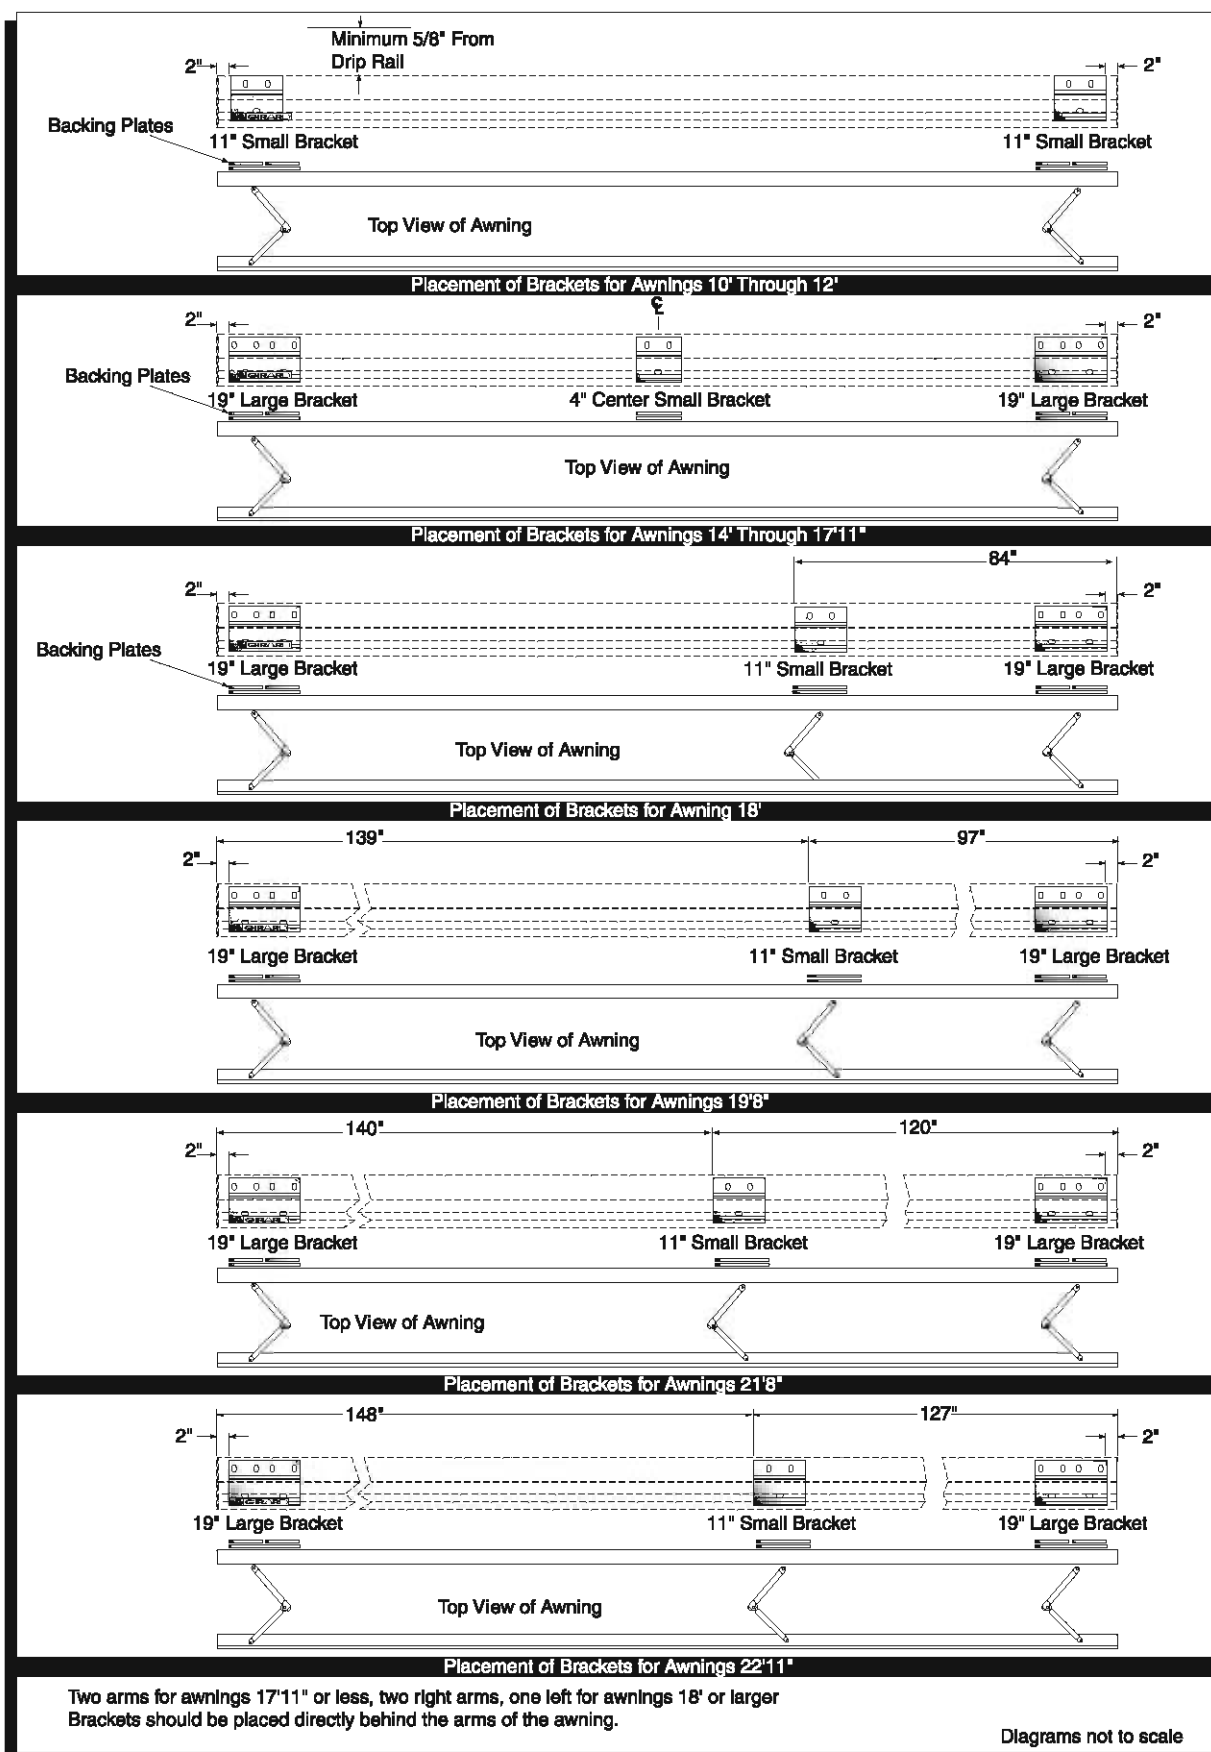
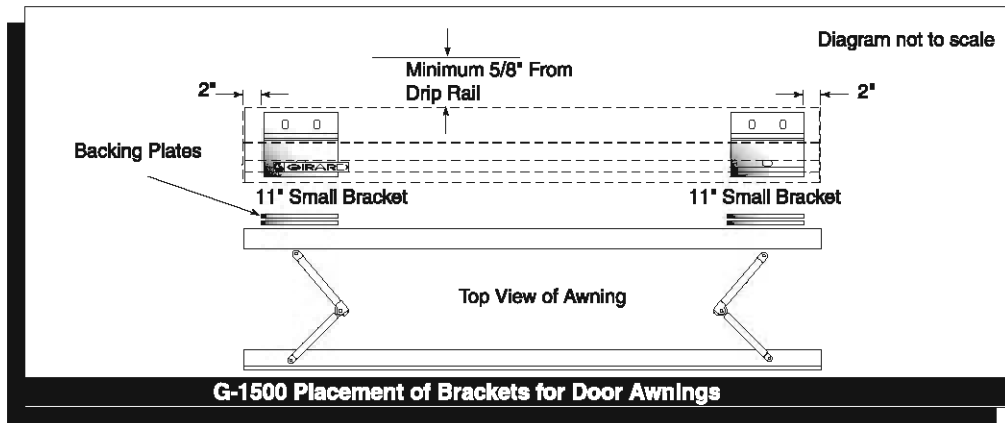

FIGURE 19
FIGURE 20
Insert end of crank into manual override receiver, located at right side of awning. Push in and rotate handle one-quarter turn clockwise. Let handle drop approximately one-half inch (1/2"). (Handle should lodge in receiver and awning may now be extended/opened.) Extend awning approximately twelve inches (12") by turning handle clockwise; confirm that awning arm is in proper location; retract/close awning by turning handle counterclockwise. (See Fig. 19 for locations specifications.)
1. Wall mount brackets have been assembled to awning for shipping purposes. (See Fig. 19 for quantities.)
- b. parallel to vehicle body features, as high as possible on vehicle (not less than 5/8" from bottom of drip rail) so awning lip will clear (Fig. 19 or Fig. 20).